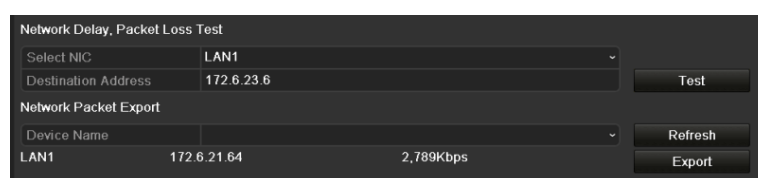

Figure 9. 25 Network Detection Interface
2. Click the **Network Detection** tab to enter the Network Detection menu, as shown in Figure 9. 25.